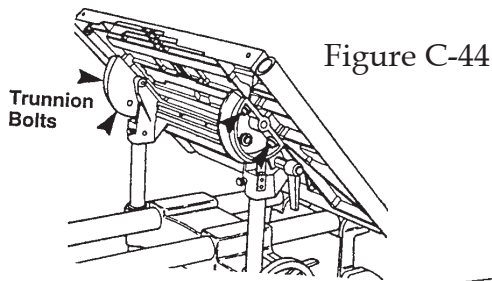
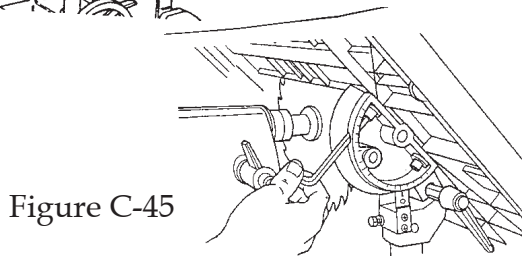

Figure C-44
Figure C-45
- Use a 5/16" Allen wrench to loosen all four bolts (147) which hold the worktable to the trunnions, as pointed out in Figure C-44. Loosen the bolts only enough to allow movement with firm pressure. See Figure C-45.